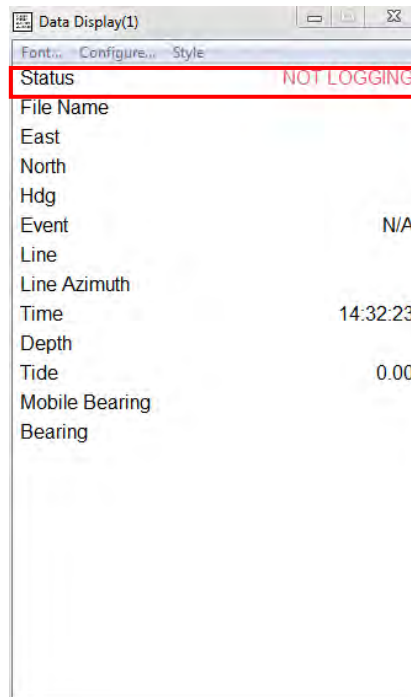

Figure 40: Logging status on the HySWEEP survey
- ⇒ Status change from NOT LOGGING to LOGGING (Figure 40)